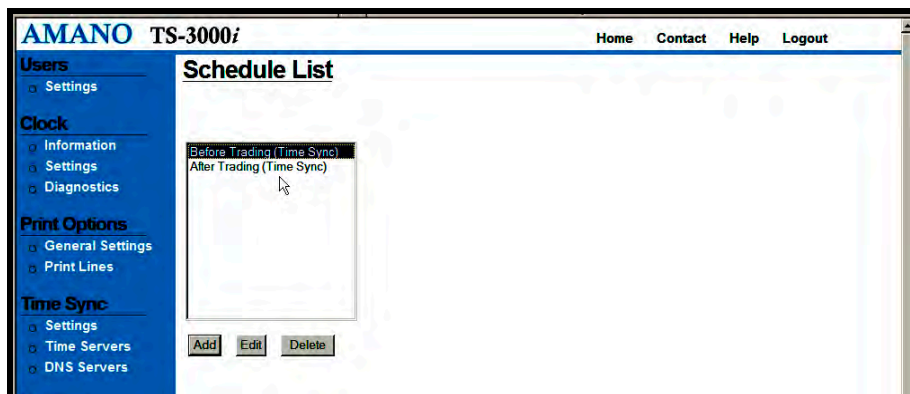

Figure 4-20: Schedule List
Step 1. Click on the Schedules link under Scheduling, and the **Schedule List** screen will appear (see *Figure 4-20*).